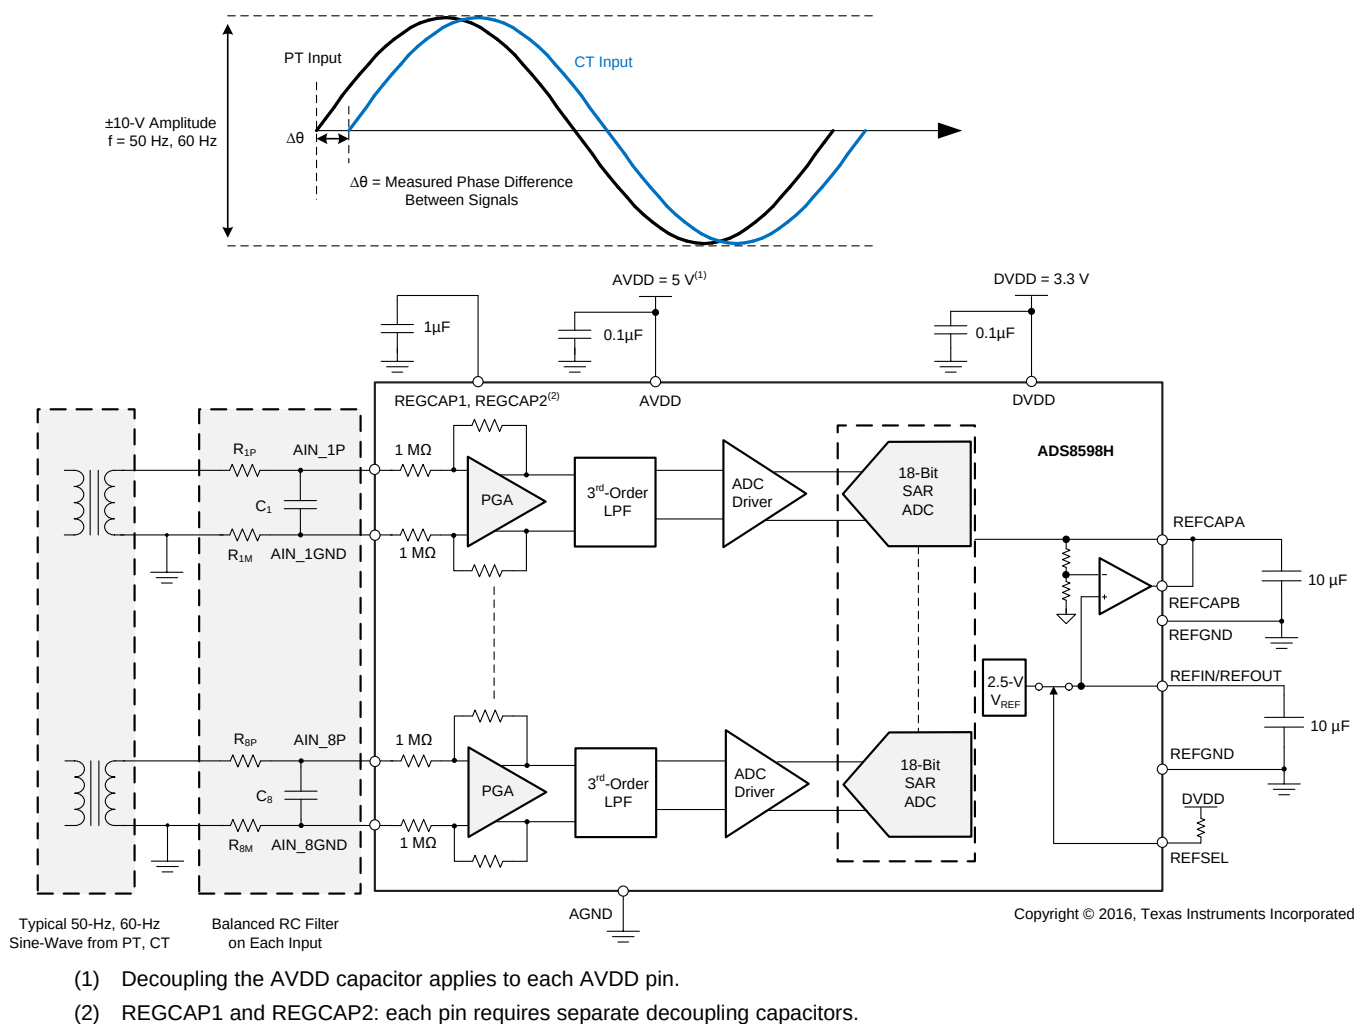

Figure 84. 8-Channel DAQ for Power Automation Using the ADS8598H
- Output range of the potential transformers (elements labeled PT in Figure 84)
- Output range of the current transformers (elements labeled CT in Figure 84)
The PT and CT used in the system, as illustrated in Figure 84, have a ± 10 -V output range. Although PT and CT provide isolation from the power system, a series resistor must be placed on the analog input channels. The series resistor helps limit the input current to ± 10 mA if the input voltages exceed ± 15 V. For applications that require protection against overvoltage or fast transient events beyond the specified absolute maximum ratings of the device, an external protection clamp circuit using transient voltage suppressors (TVS) and ESD diodes is recommended.
The primary goal of the data acquisition system illustrated in Figure 84 is to measure up to 20 harmonics in a 60-Hz power network. Thus, the analog front-end must have sufficient bandwidth (as shown in Equation 1) to detect signals up to 1260 Hz.